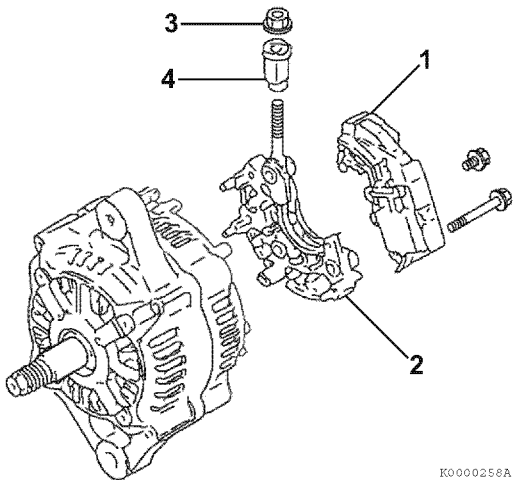

Figure 11-7
- Remove the bolt retaining the regulator assembly (**Figure 11-7, (1)**) to the holder (**Figure 11-7, (2)**).
- Remove the bolts retaining the holder (**Figure 11-7, (2)**) to the rear frame housing. Remove the holder.
- Remove the nut (**Figure 11-7, (3)**) retaining the insulation bushing (**Figure 11-7, (4)**). Remove the insulation bushing.